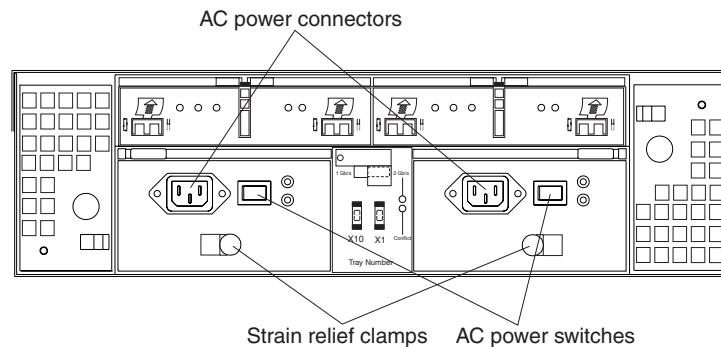

Figure 41. Connecting the power supply
5. Connect the power cable to the power supply ac connector. See Figure 41.